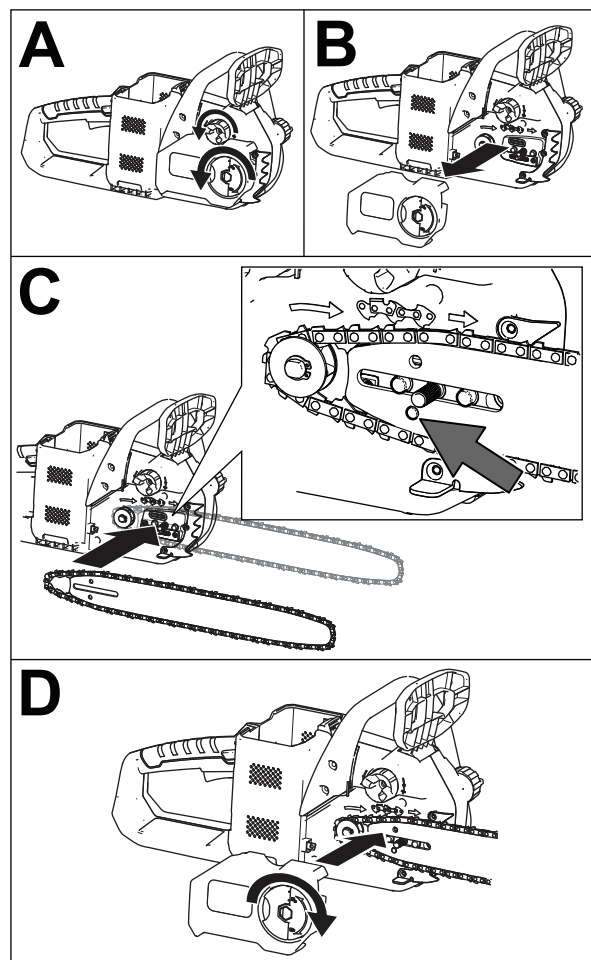

Figure 31
12. Position the open loop of the chain (not on the guide bar) around the drive sprocket on the chain saw and install the guide bar and attached chain onto the chain saw as shown in Figure 31.